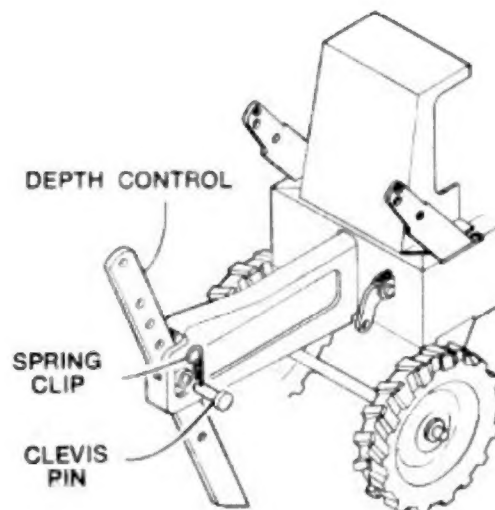

FIG. 3
4. Attach the depth control to the tailpiece, Fig. 3. Slide depth control into slot in rear of tailpiece and secure, using the "short" clevis pin\* and spring clip\*.